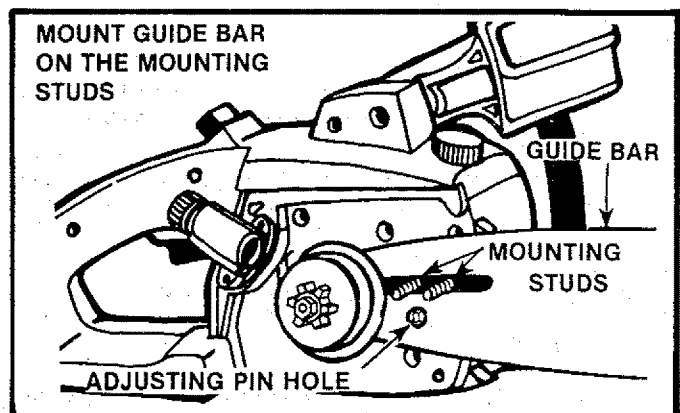

Figure 4
3. Place the Guide Bar on the saw by fitting the long slot in the Guide Bar over the two mounting studs. Figure 4.